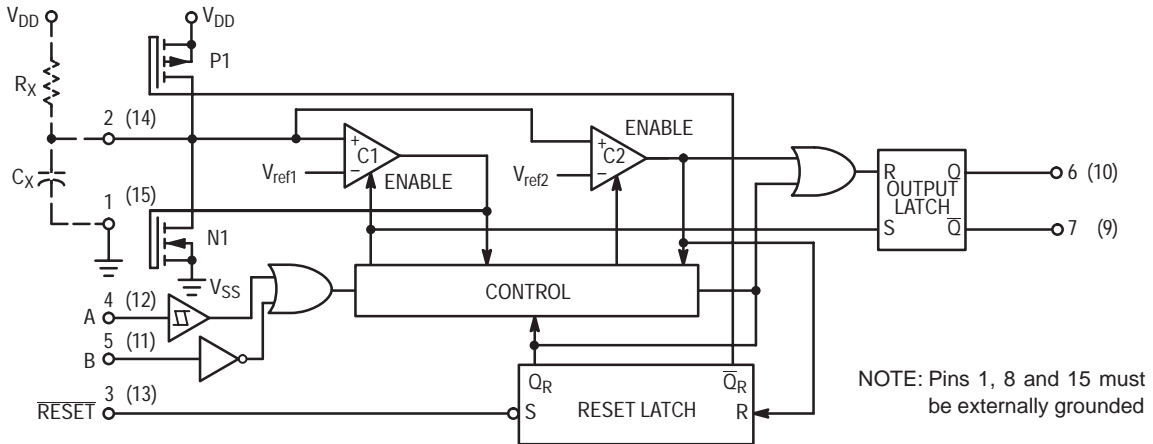

Figure 1. Logic Diagram
The block diagram of the MC14538B is shown in Figure 1, with circuit operation following.
As shown in Figure 1 and 10, before an input trigger occurs, the monostable is in the quiescent state with the Q output low, and the timing capacitor C_X completely charged to V_{DD} . When the trigger input A goes from V_{SS} to V_{DD} (while inputs B and $\overline{\text{Reset}}$ are held to V_{DD}) a valid trigger is recognized, which turns on comparator C1 and N-channel transistor N1. At the same time the output latch is set. With transistor N1 on, the capacitor C_X rapidly discharges toward V_{SS} until V_{ref1} is reached. At this point the output of comparator C1 changes state and transistor N1 turns off. Comparator C1 then turns off while at the same time comparator C2 turns on. With transistor N1 off, the capacitor C_X begins to charge through the timing resistor, R_X , toward V_{DD} . When the voltage across C_X equals V_{ref2} , comparator C2 changes state, causing the output latch to reset (Q goes low) while at the same time disabling comparator C2. This ends at the timing cycle with the monostable in the quiescent state, waiting for the next trigger.